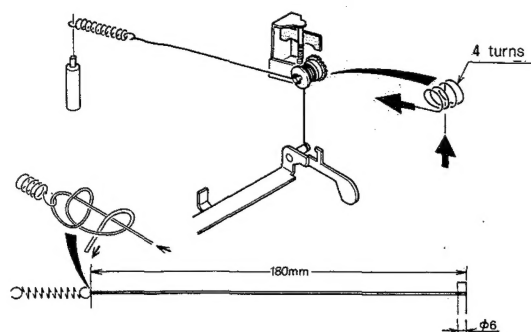

Fig. 7
- 2) Remove the air damp spring. (See figure 7)